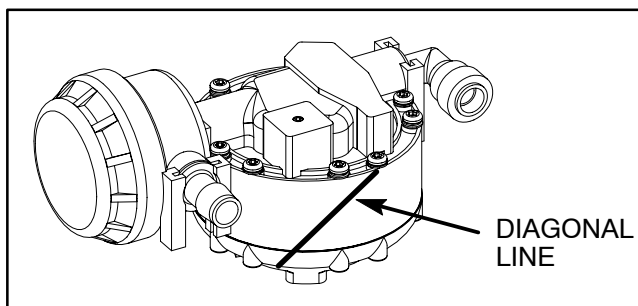

Figure 33
3. Use a marker to make a **diagonal** line across the pump head, wobbler plate/diaphragm assembly and pump endbell for assembly purposes (Fig. 33).
4. Loosen and remove ten (10) screws that retain pump head to endbell. Locate and retrieve lock washers and flat washers.
7. If necessary, remove filter (item 11) from pump head by sliding retainer and pulling filter from pump head. Remove and discard o-ring (item 8).
3. Lower pump head onto valve kit aligning diagonal line made during disassembly (Fig. 33).
4. Install five (5) shorter (1.5" (38.1 mm) length) screws with lock washers and flat washers to secure pump head to wobbler plate/diaphragm assembly. Tighten screws in a crossing pattern and in three equal steps to a final torque from 25 to 30 in-lb (2.8 to 3.4 N-m). **DO NOT** over tighten screws.
5. Position gasket and end bell to pump assembly aligning diagonal line made during disassembly (Fig. 33).
6. Install five (5) longer (2" (50.8 mm) length) screws with flat washers to secure pump assembly to endbell. Tighten screws in a crossing pattern and in three equal steps to a final torque from 25 to 30 in-lb (2.8 to 3.4 N-m). **DO NOT** over tighten screws.
9. Secure spray pump to pump drive housing with two (2) socket head screws and lock washers. Torque socket head screws from 22 to 28 in-lb (2.5 to 3.2 N-m). **DO NOT** over tighten screws.